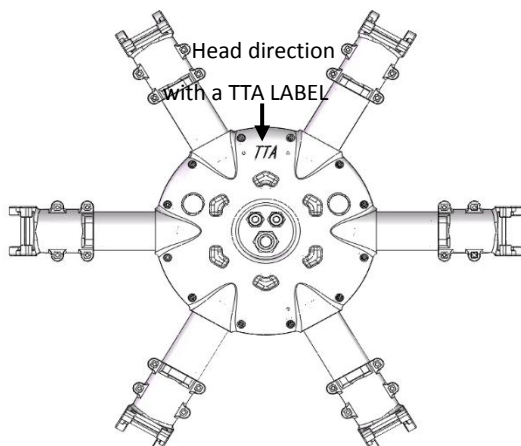

Figure 1
- 1) Put the fuselage bottom upward as the Figure1.